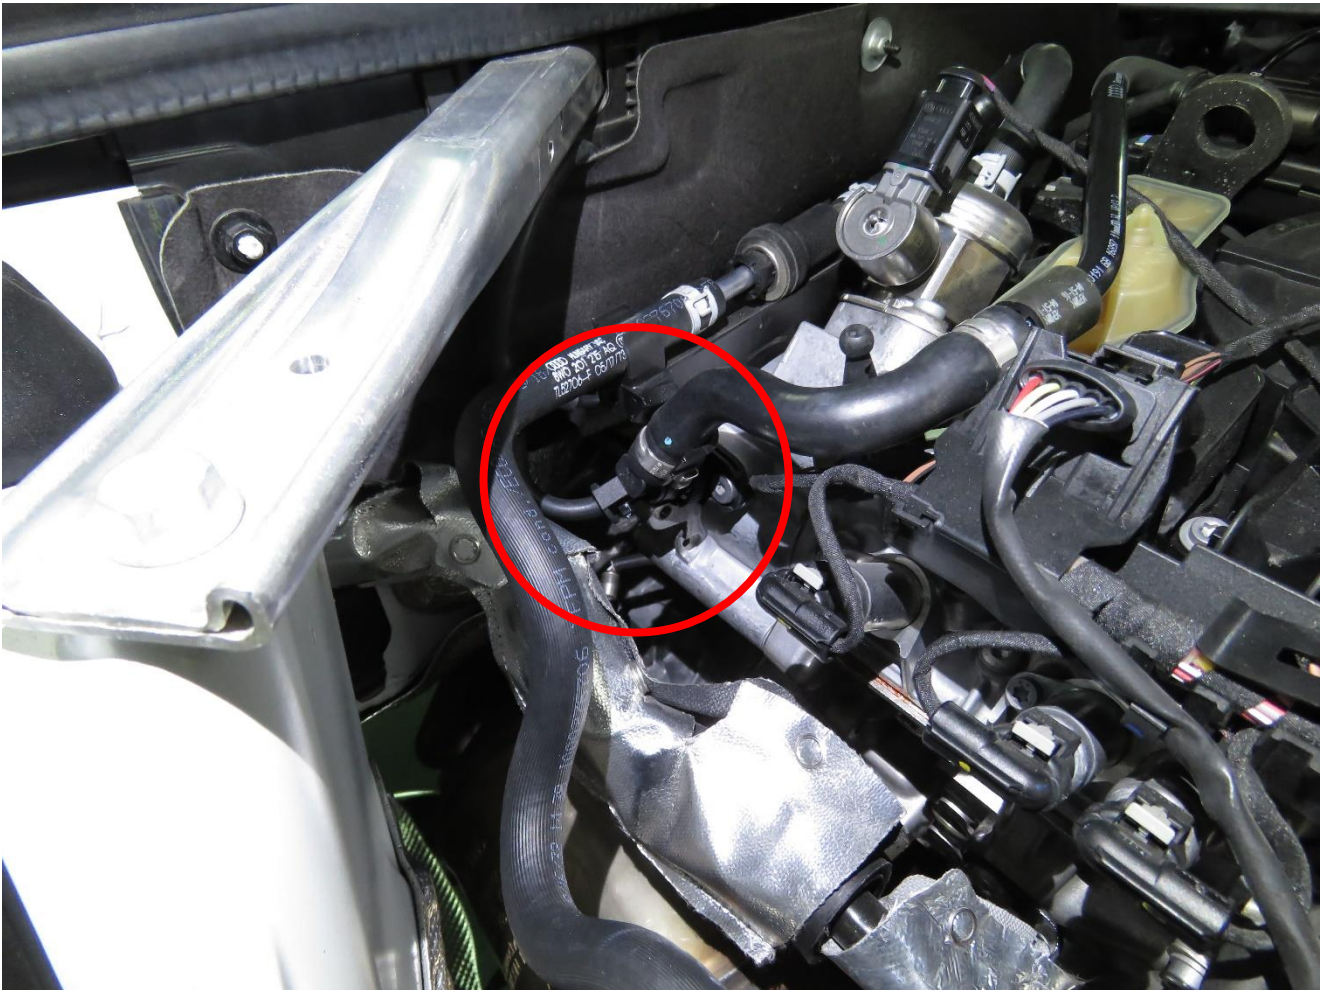

Figure 16
9. Vacuum line in the red mark(Figure 16)。